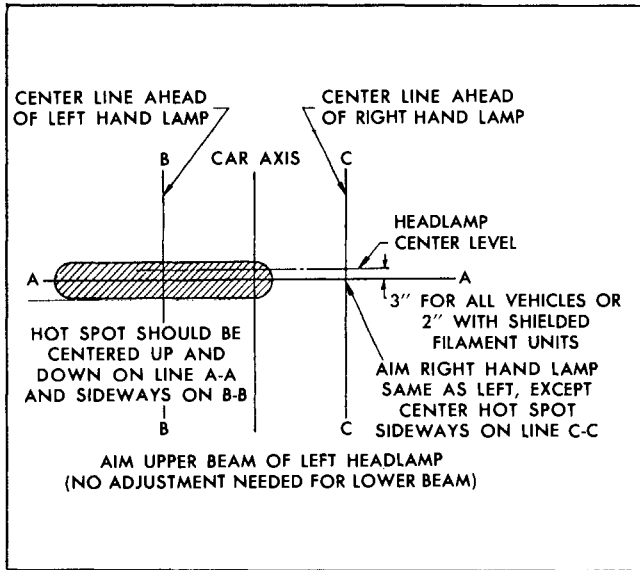
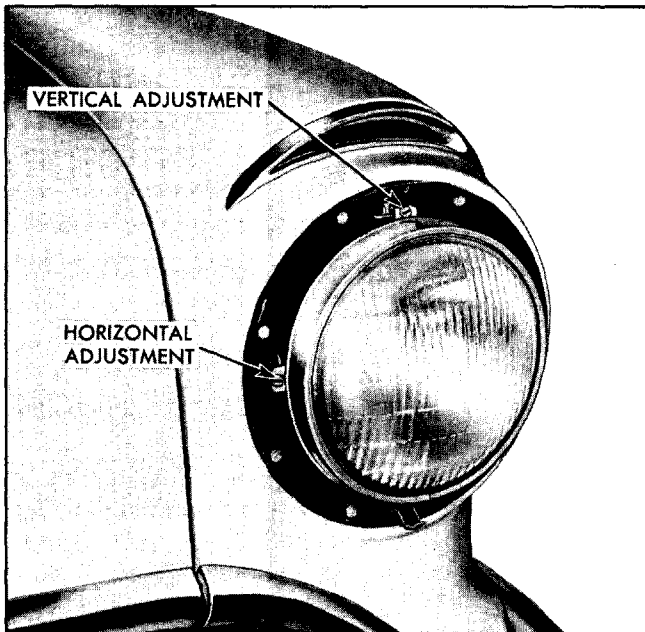

Fig. 12-61 Headlamp Aiming Chart
Fig. 12-63 Headlamp Aiming Screws
Various types of headlamp brightness and aiming testers are available; however, it is only necessary to have a light colored headlamp screen approximately 4 feet high by 8 feet wide (a white wall will do but a movable screen is best) preferably equipped with black movable tapes to mark the lines shown in Fig. 12-61. To aim headlights using screen proceed as follows:
4. Locate vertical car axis line on screen (Fig. 12-61) by looking through rear car window and locating a point on screen lining up with hood ornament and center of rear window.
5. Locate and mark lines BB and CC (Fig. 12-61) the same distance either side of car axis line as headlamp centers are on either side of car center line.
6. Locate and mark line AA as follows (Fig. 12-61).
7. With headlamp door removed, lights turned on country beam, and cover over right headlamp, adjust left headlamp horizontal and vertical adjusting screws (Fig. 12-63) to bring center of beam hot spot on intersection of lines AA and BB as shown by shaded area on Fig. 12-61.